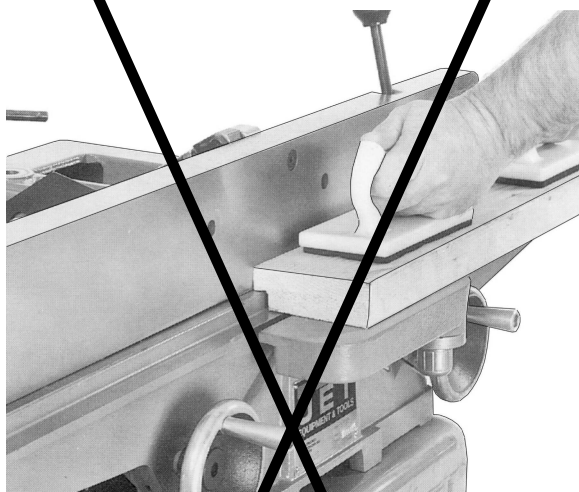

Figure 10-4
A rabbet is a groove cut along the edge of a board. See Figure 10-4. The width and thickness of the wood to be rabbeted depends upon the width and length of the rabbet. However, never rabbet a piece of wood less than 12" long.
4. Re-connect power. It is easier and safer to take a series of shallow cuts. Lower the infeed table 1/32" at a time and make successive cuts until the desired depth of rabbet has been obtained. See Figure 10-4.